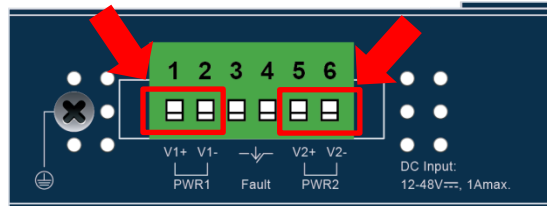

Figure 2-1-3 ICS-2200T Upper Panel
1. Insert positive/negative DC power wires into **Contacts 1 and 2 for Power 1**, or **Contacts 5 and 6 for Power 2**. Figure 2-1-3 and 2-1-4 show PWR1 and PWR2 of the Industrial Serial Server.